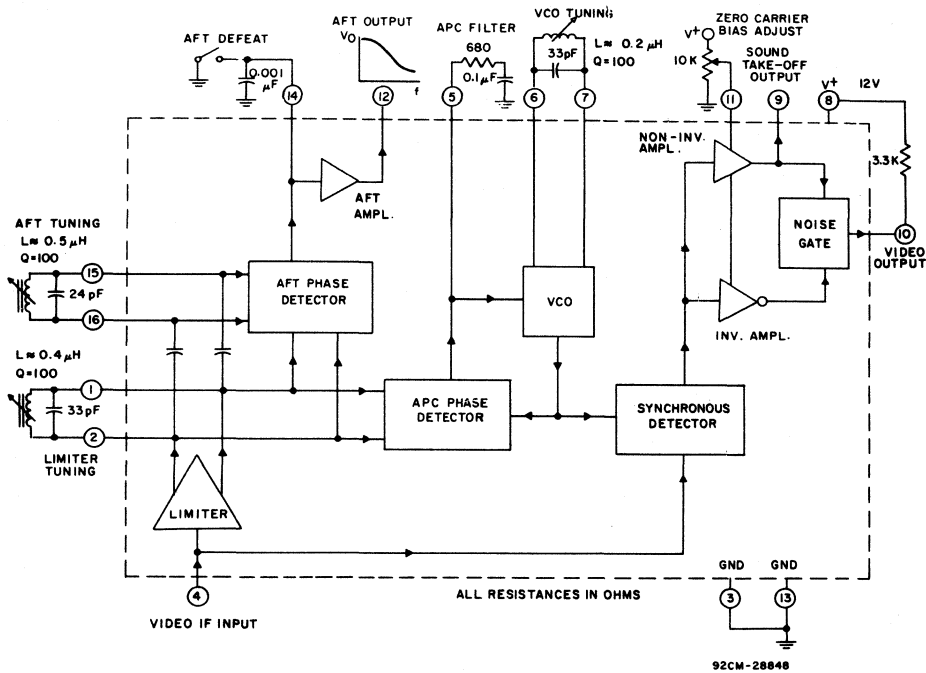

Fig. 1 - Block diagram of the CA3136 in a typical circuit application.
Fig. 1 shows a block diagram of the CA3136 in a typical circuit indicating the internal functions as well as the external circuitry and signals. A 45.75 MHz, 100-mVrms (50-ohm) signal is applied to the VIDEO IF INPUT (Terminal 4). While monitoring the VIDEO OUTPUT (Terminal 10), make the following adjustments in the indicated sequence; (1) adjust the VCO TUNING coil for a dc voltage at the AFT OUTPUT (Terminal 12). (2) Adjust the LIMITER TUNING coil for a minimum dc voltage on Terminal 10. (3) Adjust the VCO